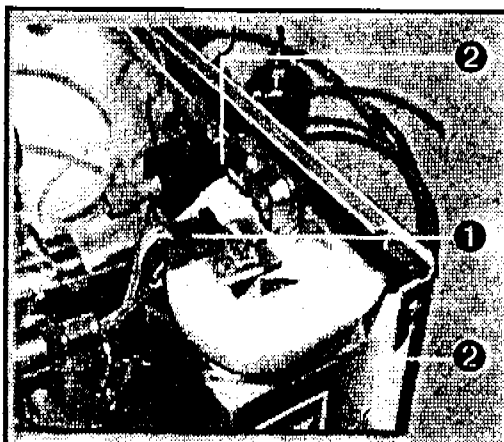

Figure 4.8.1 Hot Water Tank Assembly, Top
5. Disconnect the 4-wire connector (❶, Figure 4.8.1) from the top of the temperature sensor board located on top of the hot water tank.